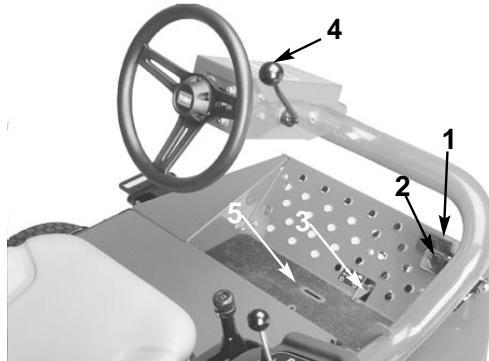

Figure 7
**Traction Pedals** (Fig. 7)—Depress the traction-forward pedal to move forward. Depress the traction-reverse pedal to move backward or to help stop the machine when moving forward. Also, allow the pedal to move to the neutral position to stop the machine.
**Mow/Transport Slide** (Fig. 7)—Using your heel, move the slide to the left to transport the machine and to the right to mow. The cutting units will only operate in the mow position.
**Tilt Steering Lever** (Fig. 7)—Pull the lever back to tilt the steering wheel to the desired position. Then push the